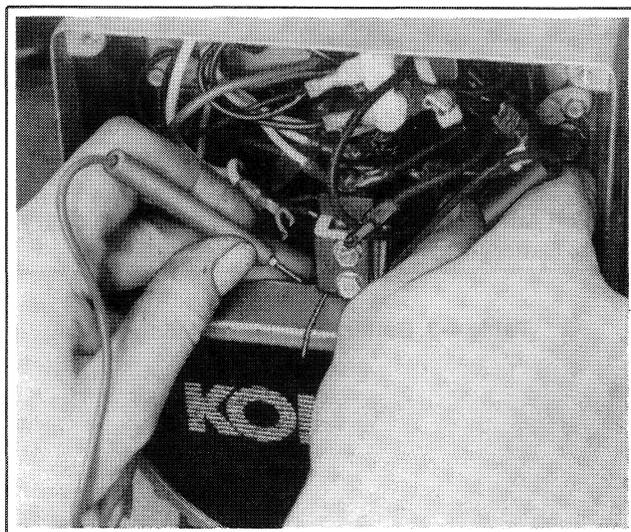

Figure 4-3. Flashing Field
3. Using a 9-volt transistor, 6-volt lantern or a 12-volt automotive battery, place the positive (+) lead on the outside slip ring and the negative (-) lead on the slip ring nearest the rotor core, for approximately 2 seconds. Figure 4-3.